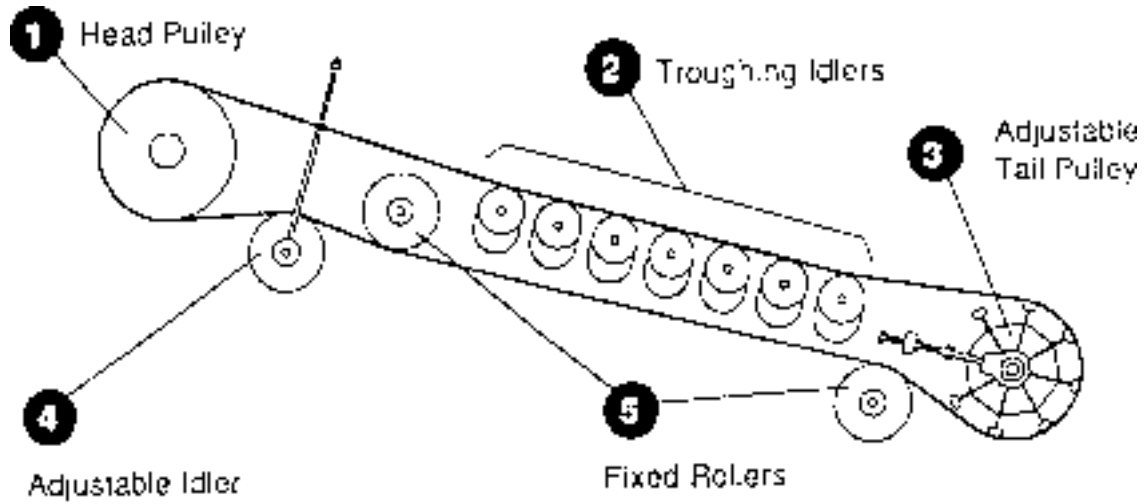

Figure 4
Pulleys - Drive, tension and suspension for the conveyor belts are provided by various pulleys attached to each conveyor frame. Figure 4 shows the relative location of these pulleys.
The **head pulley (item 1, Fig. 4)**, located at the spread hopper end, is driven by the hydraulic motors and drives the conveyor belts.
The **tail pulley (item 3, Fig. 4)**, located at the receiving hopper end, can be used to adjust the tension of the conveyor belt.
A number of **trough idlers (item 2, Fig. 4)**, an **adjustable idler (item 4, Fig. 4)** and two **rolling pulleys (item 5, Fig. 4)** are located between the head and tail pulleys to provide suspension and tension adjustment for each conveyor belt.